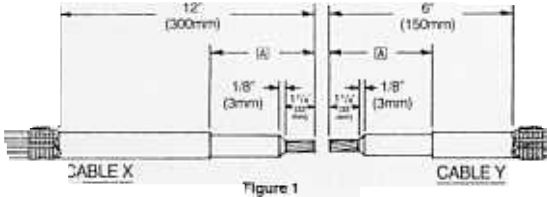

Figure 1
A. Prepare Cables According to Standard Procedures (Figure 1)
3. Continue cable preparation according to Figure 1 and the Connector and Dimension Tables.